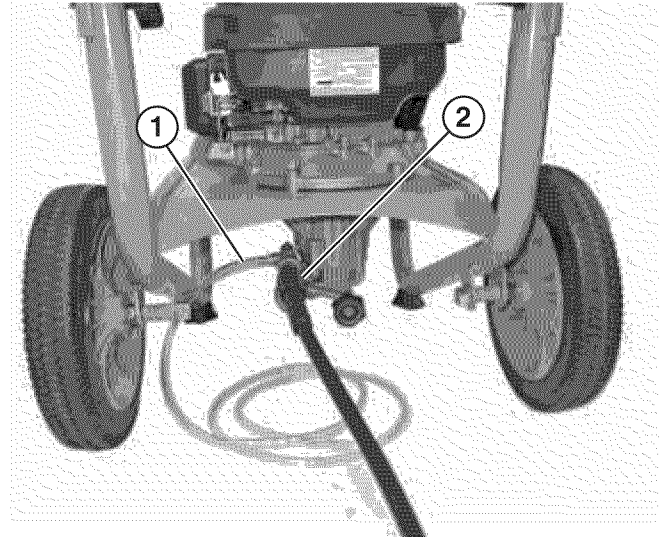

Figure 13 – Installing High-Pressure Hose
12. Connect the high-pressure hose to the pump and tighten the hose fitting (see Figure 13). Do not overtighten. The fitting only needs to be hand-tight.
13. Connect the soap hose to the barbed fitting if you are going to be using soap (see Figure 13).